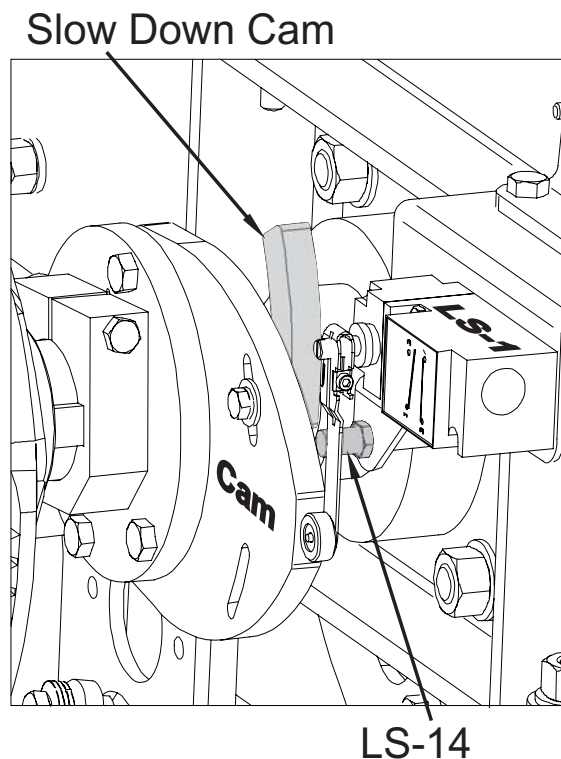

Figure 97 - Slow Down Cam and LS-14
17. Adjust LS-14 target (Slow Down Cam) until LS-1 roller stops on center of cam (see Figure 97).